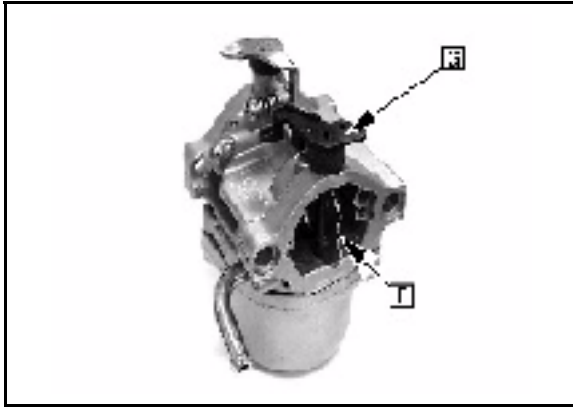

Fig. 138
- Turn the choke plate as shown in Fig.138.
- Pull the choke plate (F) from the choke shaft ([G] Fig. 138).